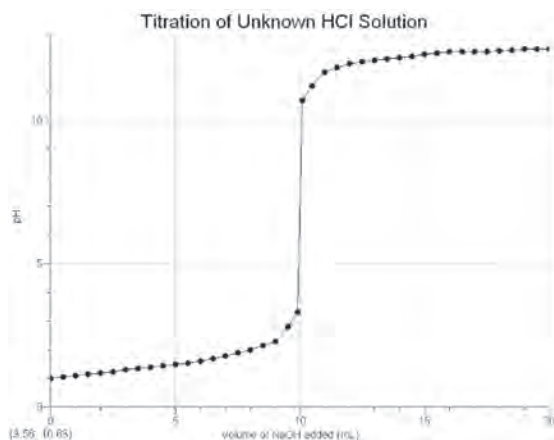

Figure 7.1. Typical titration curve.
solution, or one whose concentration is known, until they react completely. The standard solution will react with the analyte, based on the stoichiometry of the balanced chemical equation. They are called neutralization titrations because the acid reacts with the base to produce a salt and water. The pH (a measure of the solution's acidity or basicity) of the resulting solution would be neutral. A typical titration curve for the strong acid hydrochloric acid with the strong base sodium hydroxide is shown in Figure 7.1.
31. Allow the NaOH solution to drip into the acid solution until the titration is complete. When complete, the pH value will plateau at approximately 10–12 (see Figure 7.1).